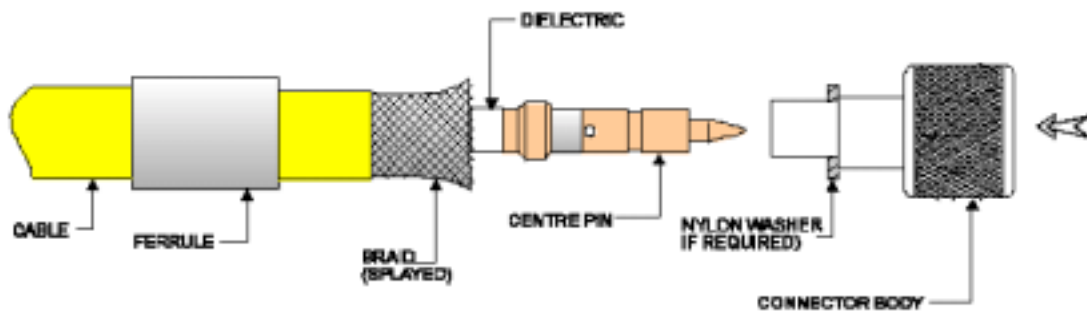

Figure B-6: Rotating conductor
2. Rotate the centre conductor in relation to the cable to splay the braid and any foil from the dielectric, which will allow the later correct fitting of the connector body (over the dielectric). See Figure B-6. Take care not to damage the braid.
2. Fit the connector body over the centre pin and between the braid and dielectric (see Figure B-6). Do not trap any of the braid between the dielectric and back face of the connector body. If the connector is supplied with a nylon washer, fit this to the rear of the connector before application to the cable.